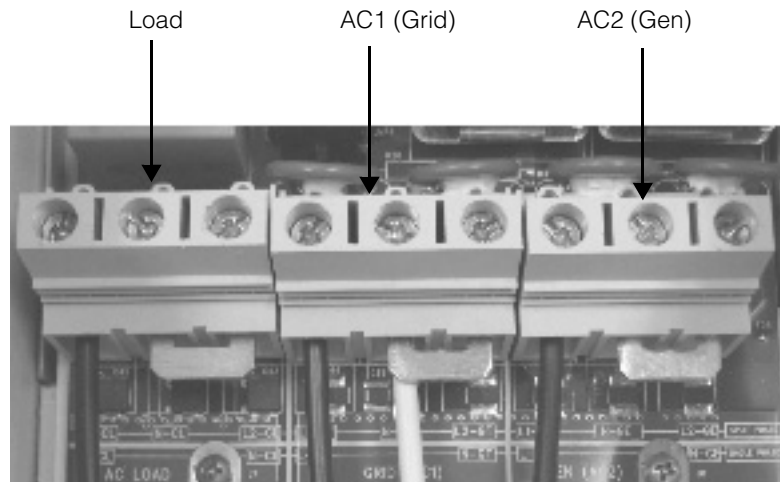

Figure C-6 Jumper Locations and AC Cable Configuration on AC Ports
2. Insert one large jumper in each connector to short out N and L2, as shown in Figure C-6.
3. Connect the AC cables as shown in Figure C-6. Insert jumper on top of the wire.